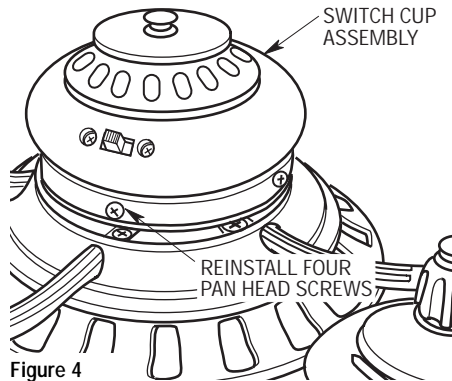

Figure 4
- 5. Position the switch cup assembly on the switch cup adapter. Line up the four holes in the switch cup with the threaded holes in the switch cup adapter and reinstall four pan head screws (previously removed) (Figure 4).